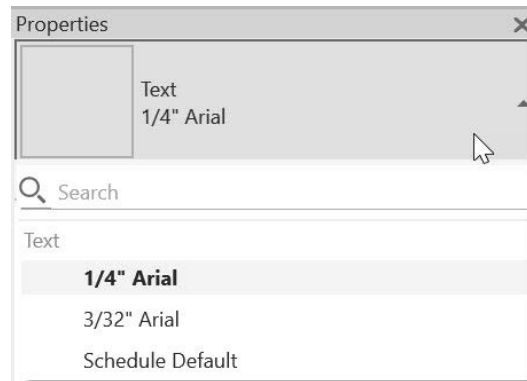

Figure 1–51
2. Expand the list in the Type Selector. Only a few text types are available, as shown in Figure 1–51.